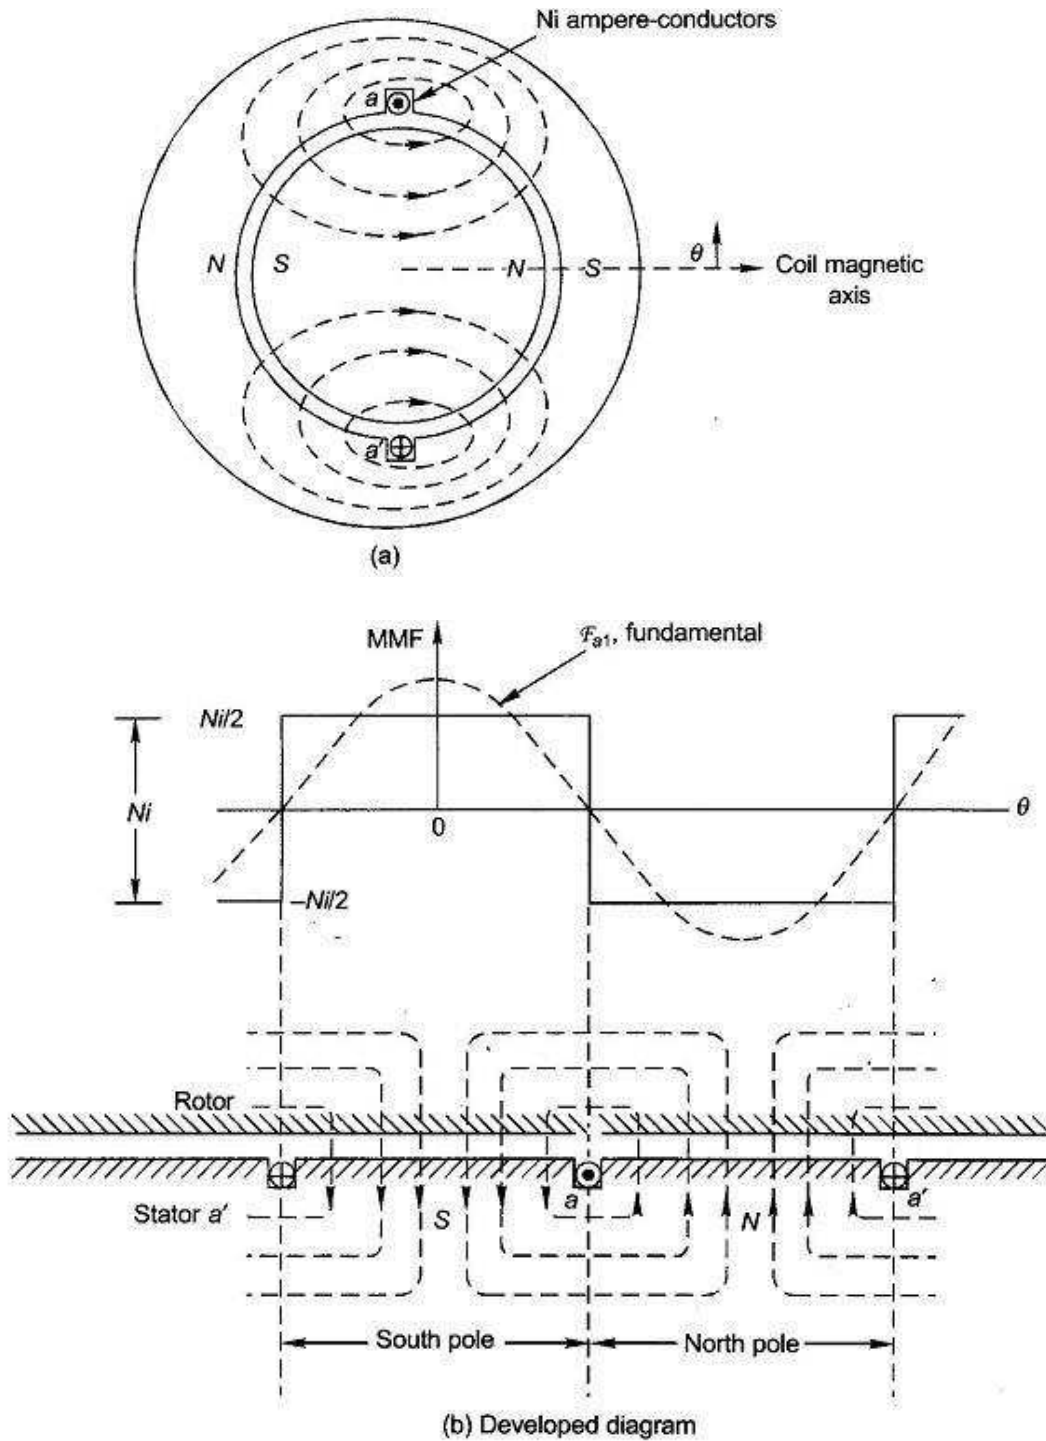
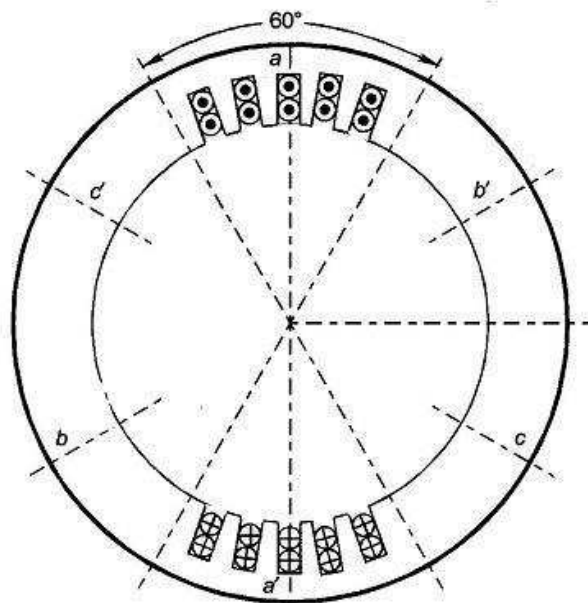
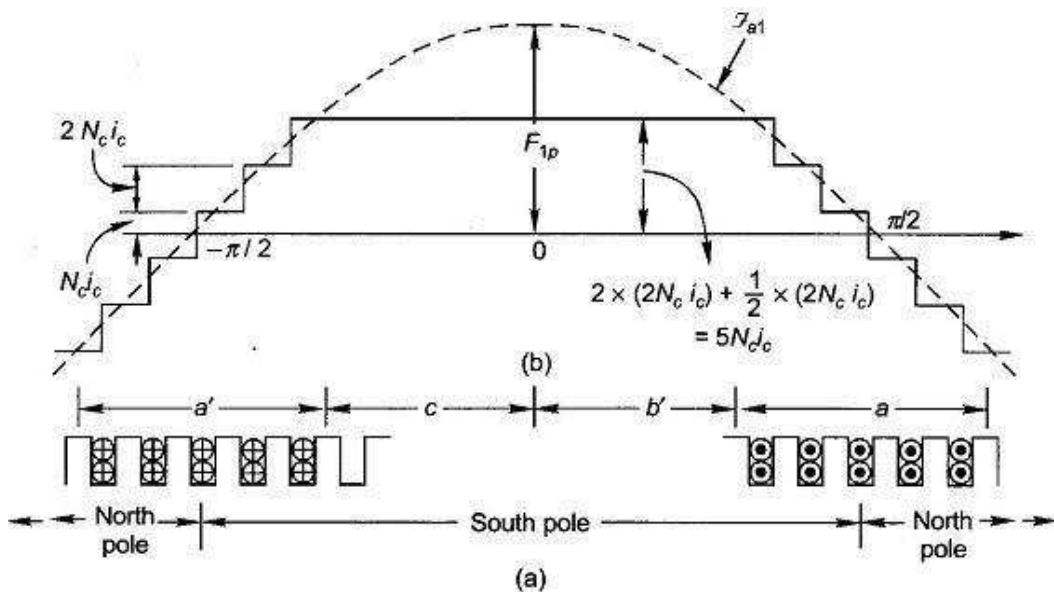

Fig. 5.24 Mmf space wave of a single coil
Fig. 5.25 A 3-phase, 2-pole structure with two-layer winding
Fig. 5.26 Developed diagram and mmf wave of the machine of Fig. 5.25
A cylindrical rotor machine with small air-gap as shown in Fig. 5.24(a) will be assumed here. The stator is imagined to be wound for two-poles with a single N-turn full-pitch coil carrying current i in the direction indicated. The figure shows some flux lines of the magnetic field set up. A north and corresponding south pole are induced on the stator periphery. The magnetic axis of the coil is from the stator north to the stator south. Each flux line radially crosses the air-gap twice, normal to the stator and rotor iron surfaces and is associated with constant mmf Ni . On the assumption that the reluctance of the iron path is negligible, half the mmf ($Ni/2$) is consumed to create flux from the rotor to stator in the air-gap and the other half is used up to establish flux from the stator to rotor in the air-gap. Mmf and flux radially outwards from the rotor to the stator (south pole on stator) will be assumed to be positive and that from the stator to rotor as negative.
The physical picture is more easily visualized by the developed diagram of Fig. 5.24(b) where the stator with the winding is laid down flat with the rotor on the top of it. It is seen that the mmf is a rectangular space wave wherein mmf of $+ Ni/2$ is consumed in setting flux from the rotor to stator and mmf of $- Ni/2$ is consumed in setting up flux from the stator to the rotor. It has been imagined here that the coil-sides occupy a narrow space on the stator and the mmf changes abruptly from $-Ni/2$ to $+ Ni/2$ at one slot and in reverse direction at the other slot. The mmf change at any slot is
Consider now a basic 2-pole structure with a round rotor, with 5 slots/pole/phase (SPP) and a 2-layer winding as shown in Fig. 5.25. The corresponding developed diagram is shown in Fig. 5.26(a) along with the mmf diagram which now is a stepped wave obviously closer to a sine wave than the rectangular mmf wave of a single coil (Fig. 5.24(b)). Here since SPP is odd (5), half the ampere-conductors of the middle slot of the phase group a and a' contribute towards establishment of south pole and half towards north pole on the stator. At each slot the mmf wave has a step jump of $2N_c i_c$, ampere-conductors where N_c = coil turns (equal to conductors/layer) and i_c = conductor current.